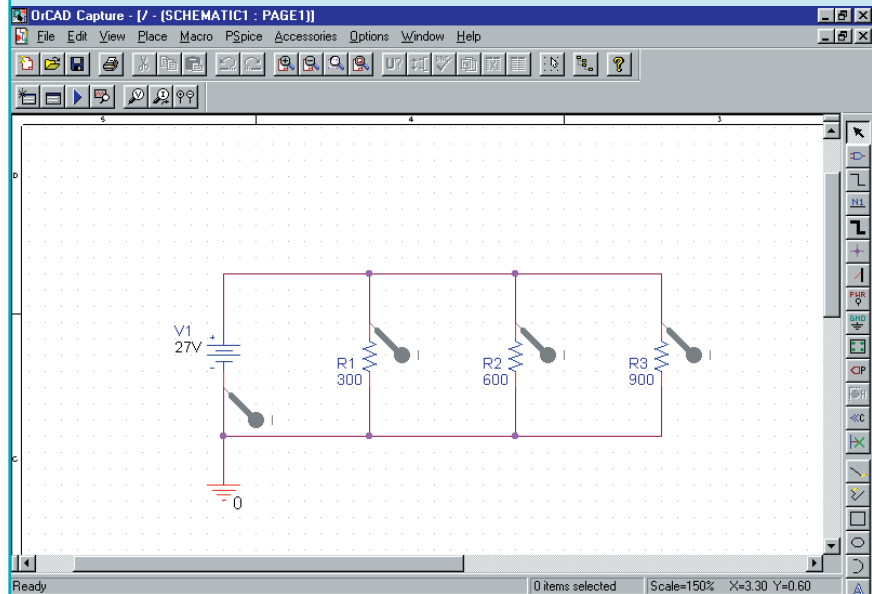

FIGURE 6–45
- Place Current Into Pin markers as shown in Figure 6–45. Notice that the marker at the voltage source is placed at the negative terminal, since current enters this terminal.
Use Electronics Workbench to determine the current in each resistor of the circuit of Figure 6–21(a) if a 24-V voltage source is connected across the terminals of the resistor network.